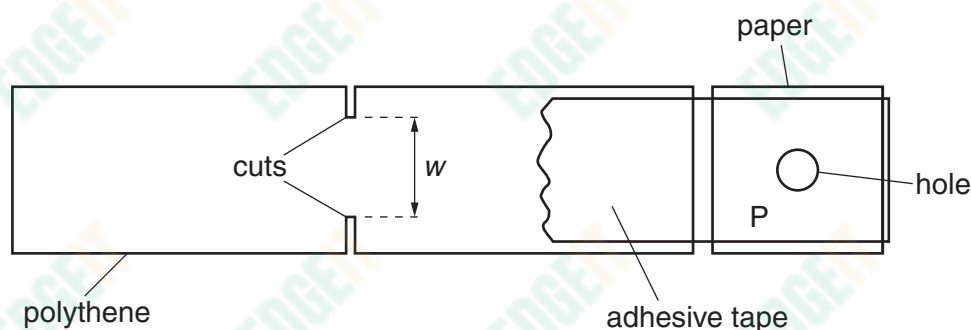

Fig. 2.1
- (b)** Each strip has two cuts in it, as shown in Fig. 2.1.